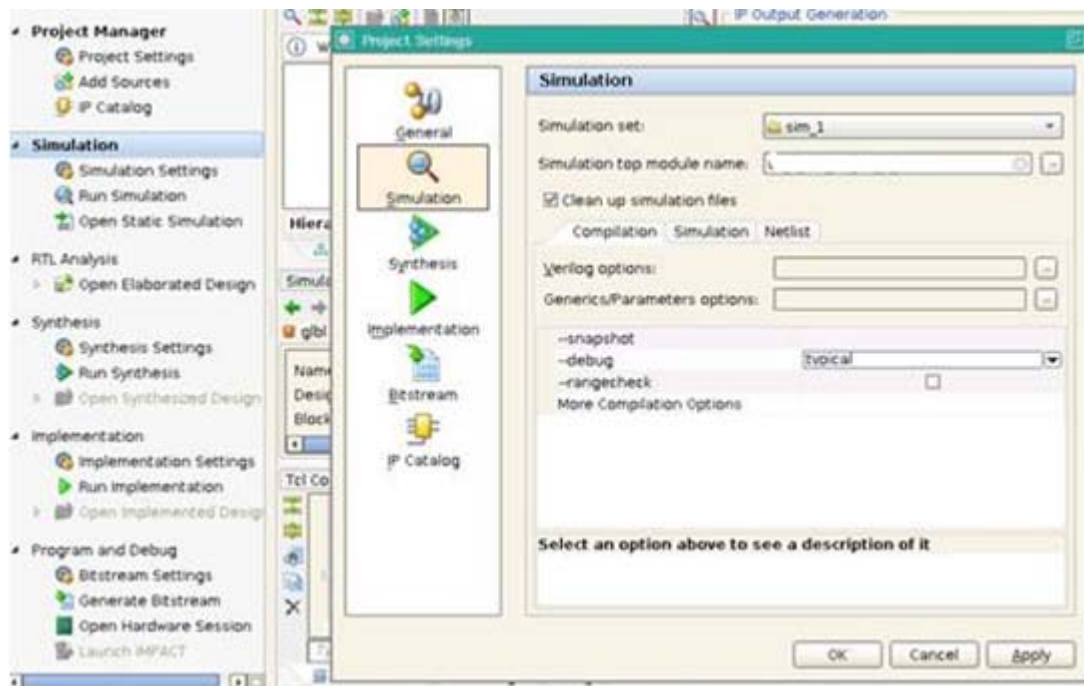

Figure 7-3: Simulation GUI
- You can also choose Modelsim for simulation by going to **Project Settings** and selecting Modelsim as the Target Simulator (Figure 7-3).